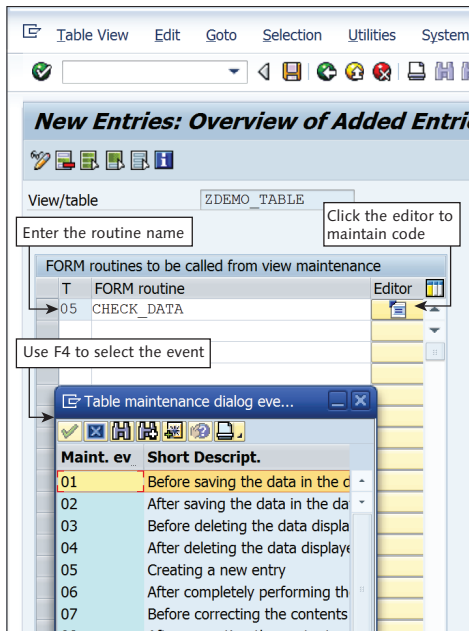

Figure 10.20 Using Events
- In the next window, click the NEW ENTRIES button and select the event using the `F4` help. Enter the form routine name that should be called for the event, as shown in Figure 10.20.